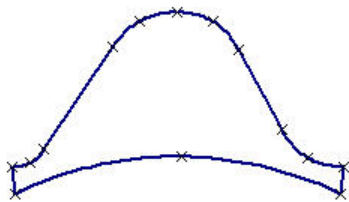

Figure 11. The final pattern
- 16.** Choose File/Save (FS) to save the final pattern (Fig. 11.)